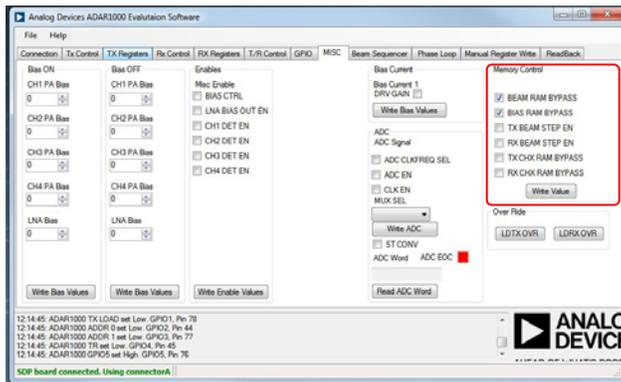

Figure 14. Placing the Device in RAM Bypass Mode
1. Click the **MISC** tab (see Figure 14).